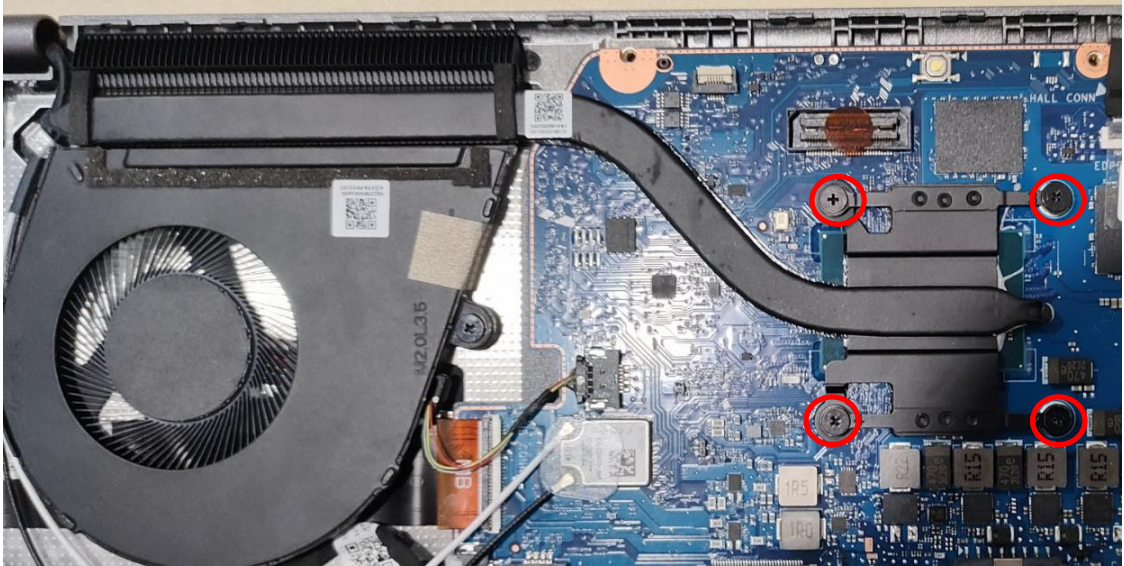

Figure 3-22. THERMAL Removal
1. Unscrew the screws on the MB. (Figure 3-22).